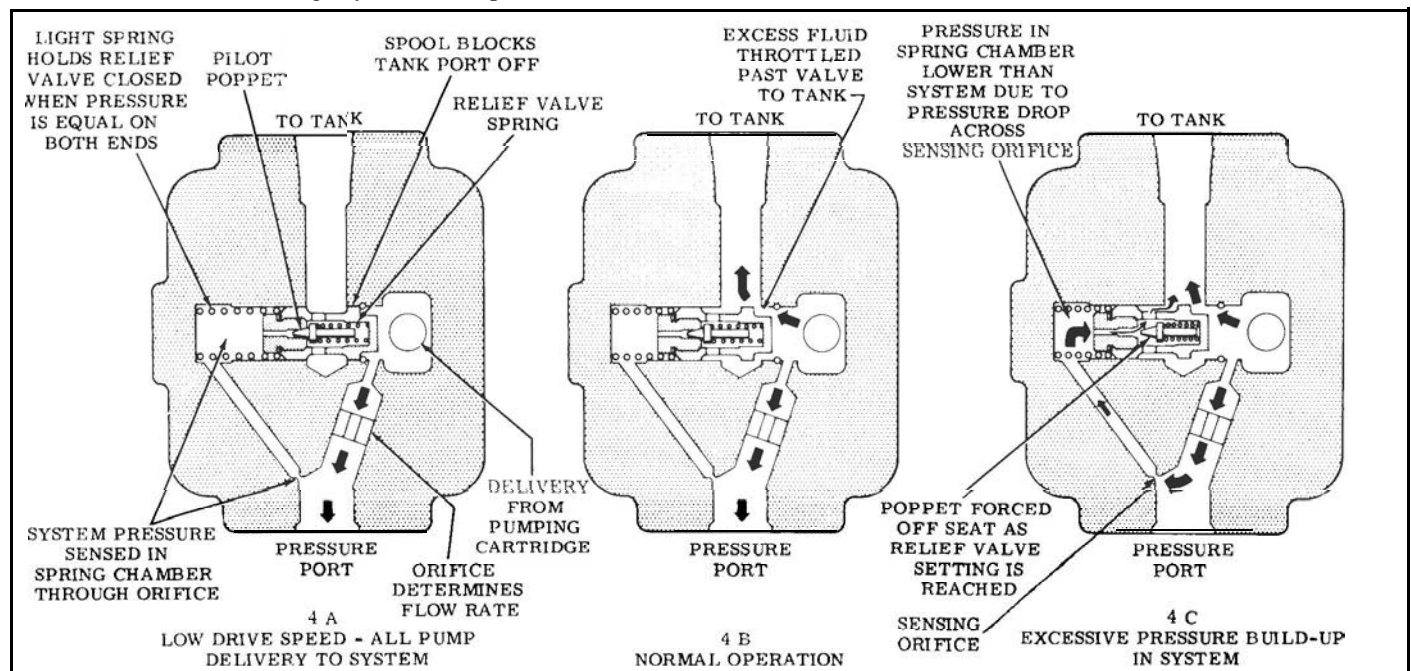

Figure 4
1. Maximum flow to the operating circuit and maximum system pressure are determined by the integral flow control and relief valve in a special outlet cover used on some Vv10 and V20 pumps. This feature is illustrated pictorially in Figure 4. An orifice in the cover limits maximum flow. A pilot-operated type relief valve shifts to divert excess fluid delivery to tank, thus limiting the system pressure to a predetermined maximum.